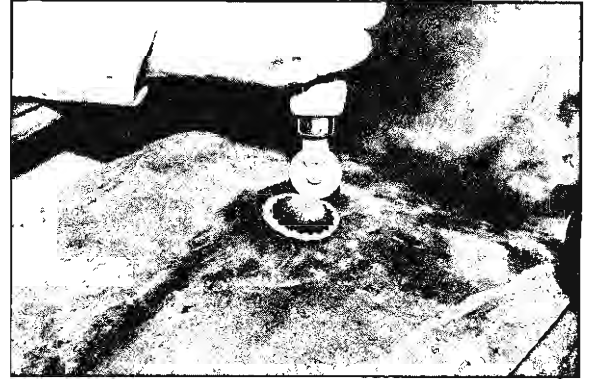

Fig. 16—Stitching Patch
6. Remove foil backing from patch. Place over injury and stitch down firmly (fig. 16), especially the edges, with roller tool included in kit. To prevent buckling and insure a good seal, roll patch from the center toward the outer edges. Vulcanization is completed chemically. The repaired tire can be placed back in service immediately.